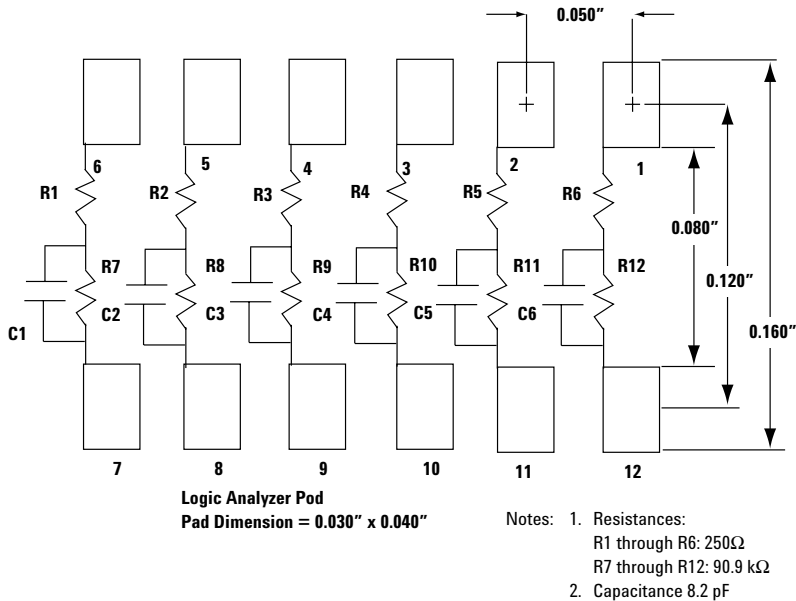

Figure 36. Recommended PC board pattern for 5062-7396 surface mount isolation network
- Use the surface mount isolation network, Agilent part number 5062-7396. Refer to Figure 36 for schematic and pinout.
As shown in Figure 36, the 5062-7396 SMT isolation network supports six logic analysis channels. The size of the part allows you to repeat the pattern in Figure 36 to accommodate multiple parts stacked end-to-end for the number of channels needed in your application. Three of these SMTs are required for each probe